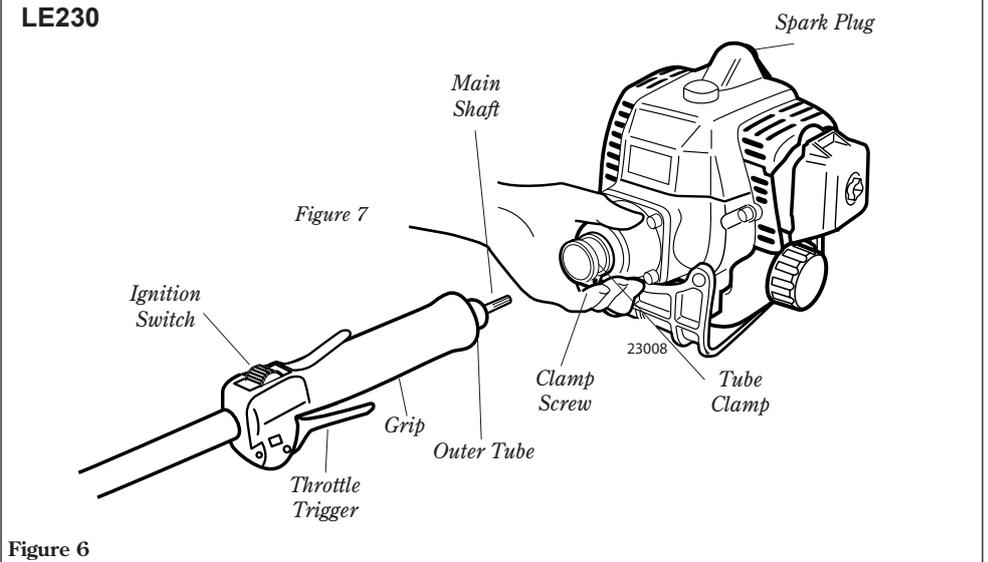

Figure 6
1. Place the powerhead on a clean, flat surface, spark plug facing up. See Figure 6.